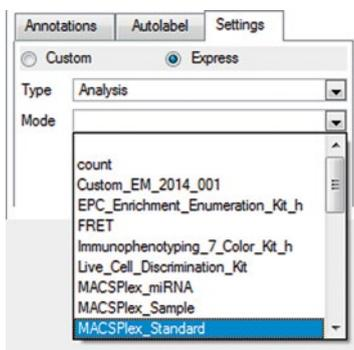

Figure 4.3: Selection of MACSPlex_Standard from the Settings tab.
5. Choose **MACSPlex_Sample** from the **Mode** drop-down list (refer to figure 4.3)